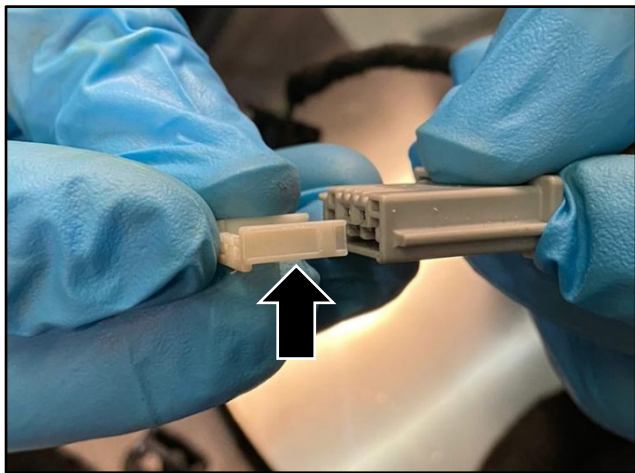

Figure 3
5. Remove the terminal lock (refer to Figure 3).